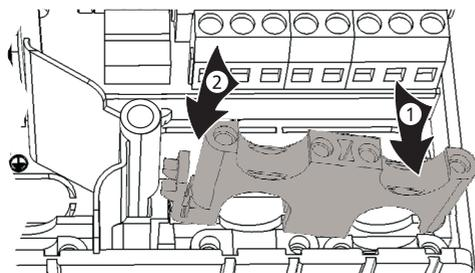

Fig 4: Inserting the right plastic link
1. Insert the right plastic link with the latching protrusion first ① (Fig. 4).
2. Press the other side of the plastic link down ②, until the spring clamp latches into place.